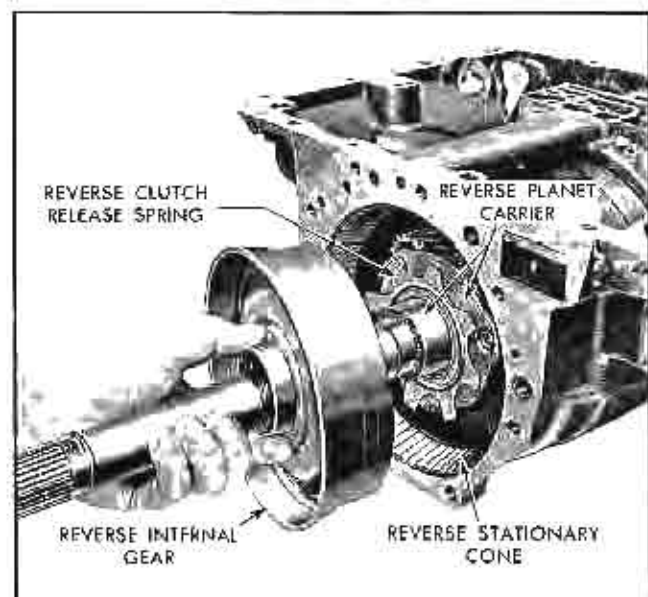

Fig. 152 Installing Reverse Internal Gear
5. Install reverse internal gear on carrier (Fig. 152).